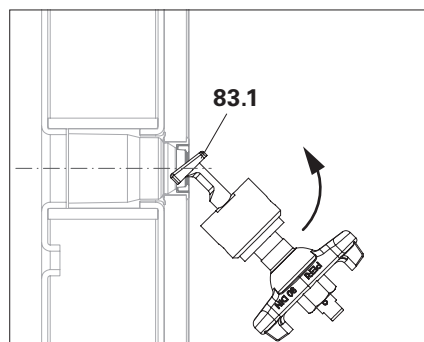
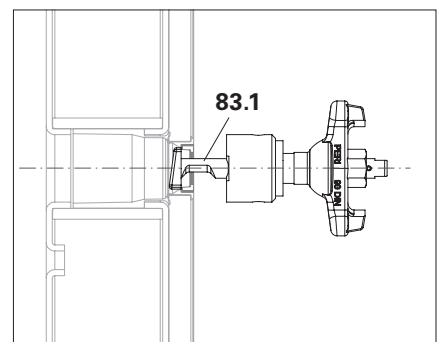

Fig. A21.03b
Fig. A21.03c
1. Screw in the extraction head (83.1) with the thick end at an angle into the washer until the extraction head is positioned inside the sealing. (Fig. A21.03b + Fig. A21.03c)